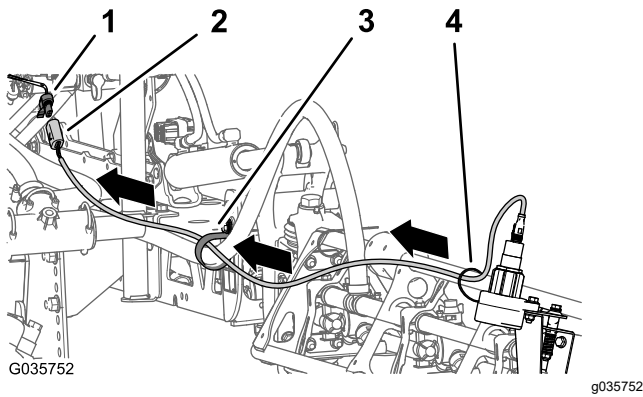

Figure 23
kit—forward of the lift-cylinder manifold (Figure 23).
3. Connect the 4-pin connectors for the left and right sensor-wire harnesses to the 4-socket connector of the wire harness for the ultra sonic boom finishing kit (Figure 23) labeled LEFT SONIC SENSOR and RIGHT SONIC SENSOR.
5. Secure the wire coming from the sensor to the boom with cable ties (Figure 23).